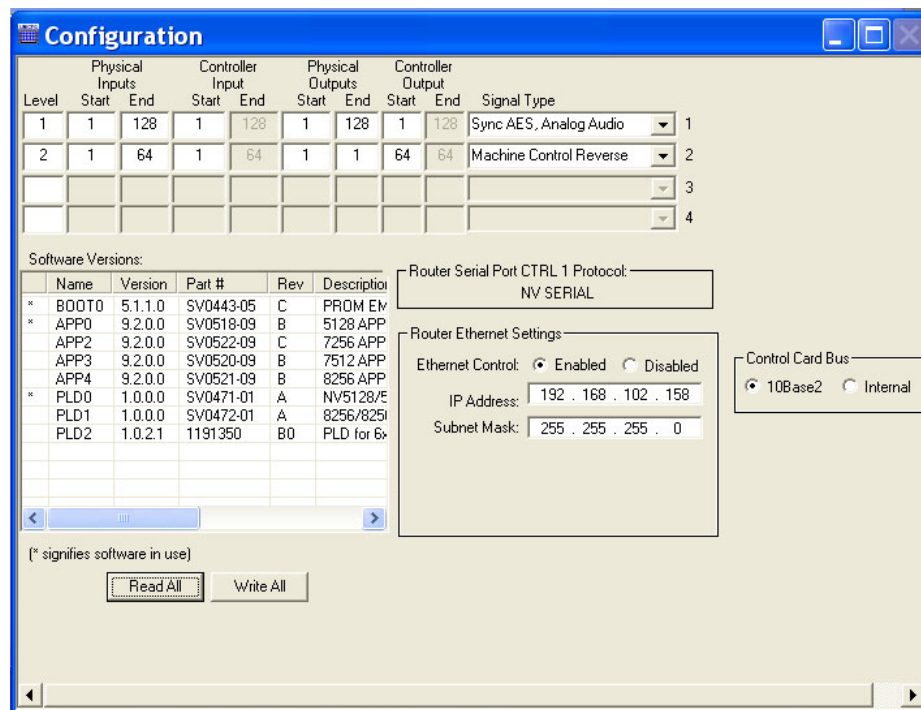

Figure 4-1. Example of Configuration Window
- 3 From the menu bar, select ‘Windows > Configuration’. The ‘Configuration’ window appears, as shown in Figure 4-1 on page 11.
9 **Important:** If you are using an Ethernet connection, be sure to up the IP address in the 'IP Address' field on the 'Configuration' window. (See Figure 4-1 on page 11.) Each control *must* have a unique IP address. (See Updating Ethernet Communication Settings on page 30.)
3 From the menu bar, select 'Windows > Configuration'. The 'Configuration' window appears, as shown in Figure 4-1 on page 11.
- 3 From the menu bar, select 'Windows > Configuration'. The 'Configuration' window appears, as shown in Figure 4-1 on page 11.